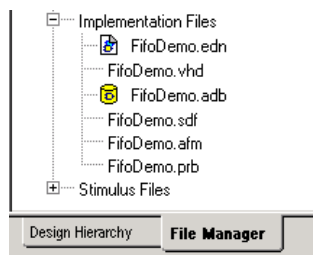

Figure 10-2. Generated Programming Files
7. **Save the file.** Click *OK* when finished to save the file. The .afm file and .prb file appear in Libero's File Manager, under Implementation Files, as shown in Figure 10-2.